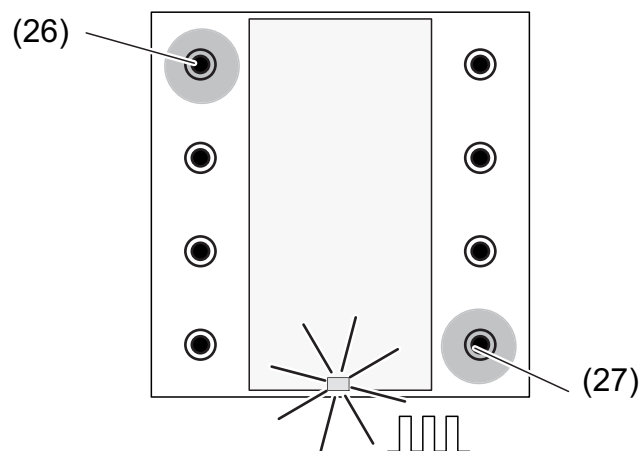

Figure 8: Buttons for activating Programming mode
- **Activate Programming mode.** Press and hold down the pushbutton at the top left of the basic device (26) (figure 8). Then press second push-button at the lower right (27).